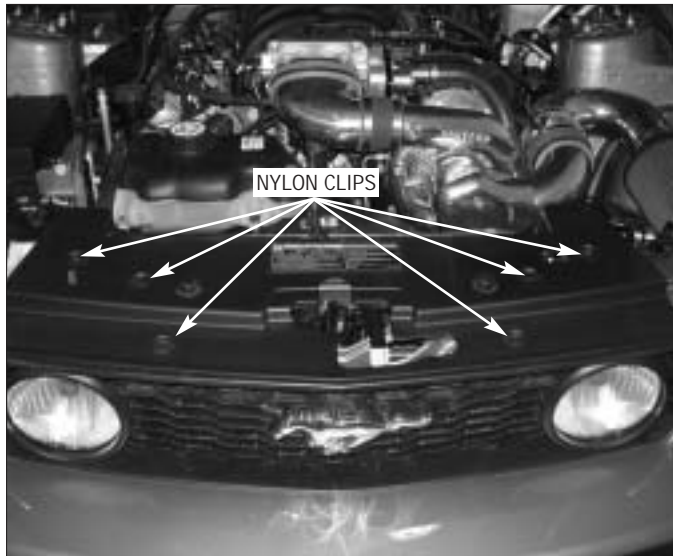

Fig. 3-f
1. Locate the Charge Air Cooler assembly. Place the cooler onto the previously installed hardware, making sure the four spacers remain in place. Align the top of the cooler flush with the top of the styrofoam bumper support. Secure the cooler using the nuts and washers provided. (See Fig. 3-b.)